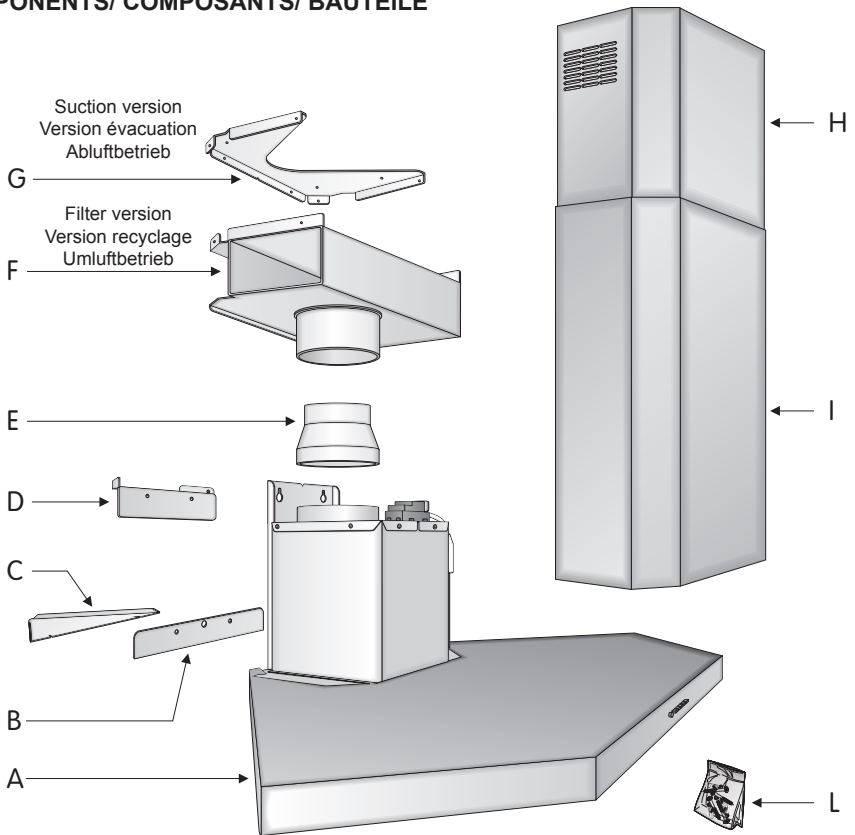

Fig. 1
- To disassemble unscrew the fixing screw in the middle of the filter. (Fig. 1)